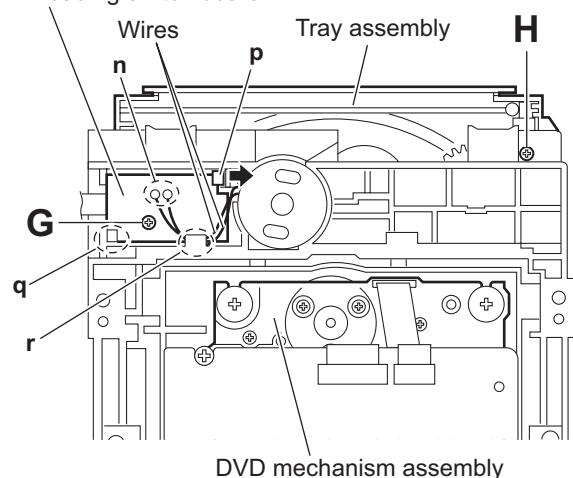

Fig.10
(See Fig.10.)
(See Figs.10 to 14)
- (1) From the bottom side of the DVD mechanism assembly, remove the wires from the soldered section **n** on the DVD loading switch board. (See Fig.10.)
- (2) Remove the screw **H** attaching the tray assembly. (See Fig.10.)
Pass the wires through the section **r** after attaching the loading motor to the DVD mechanism assembly. (See Fig.10.)